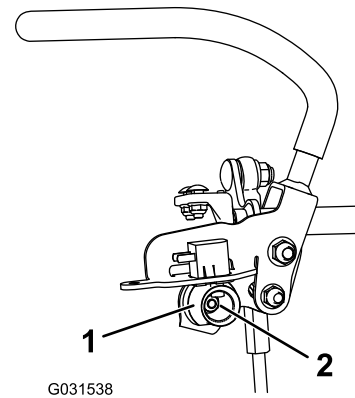

Figure 70
6. Loosen the nut holding the cam (Figure 70).